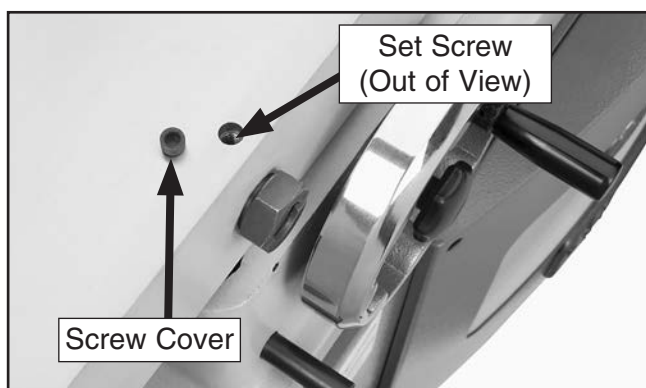

Figure 50. Screw cover and set screw location.
2. Remove the screw cover (**Figure 50**) covering each set screw on the outfeed table.
3. Loosen each set screw (**Figure 50**) two turns.